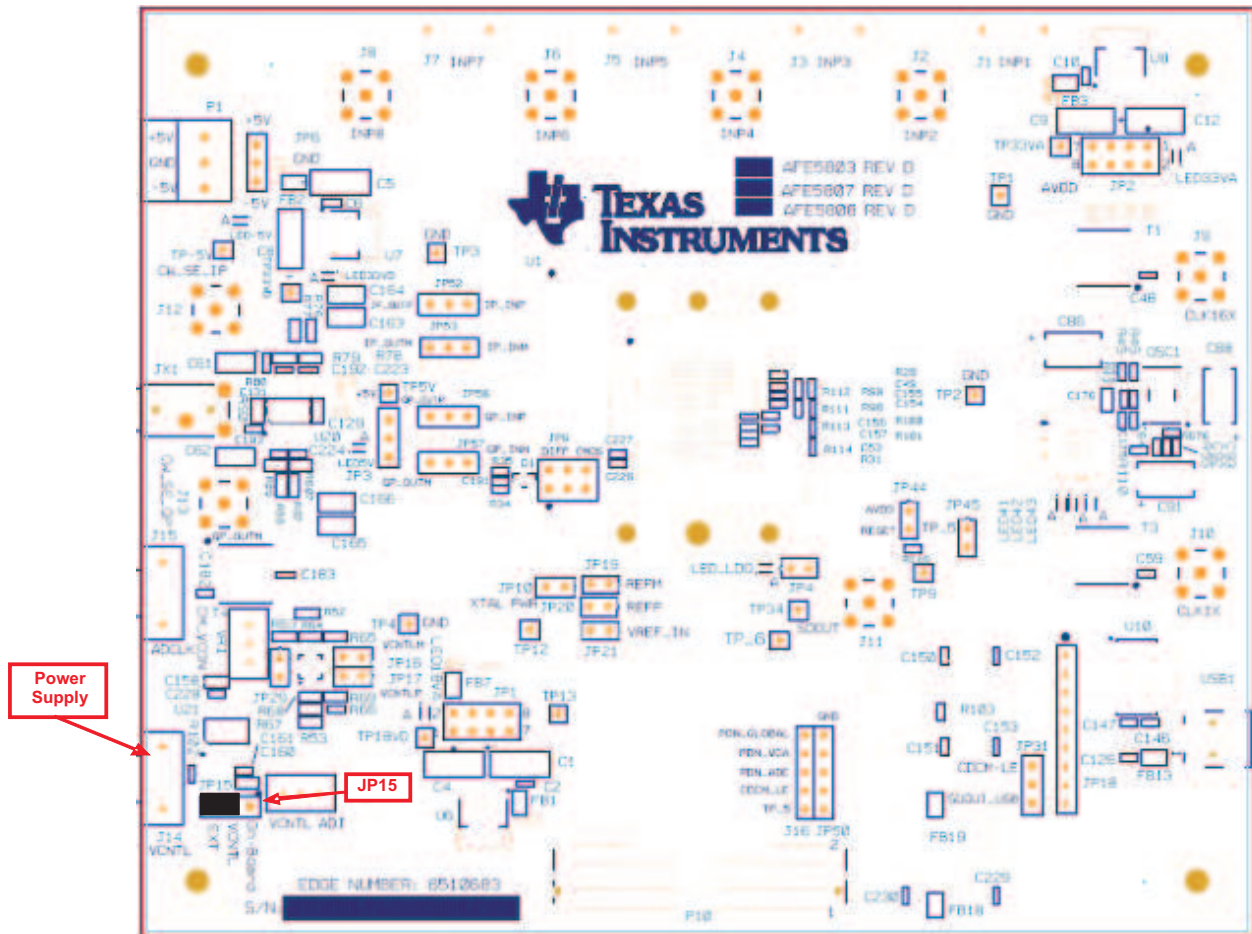

Figure 10. External Vcntl Configuration
- A power supply is required to be connected as shown in Figure 10.